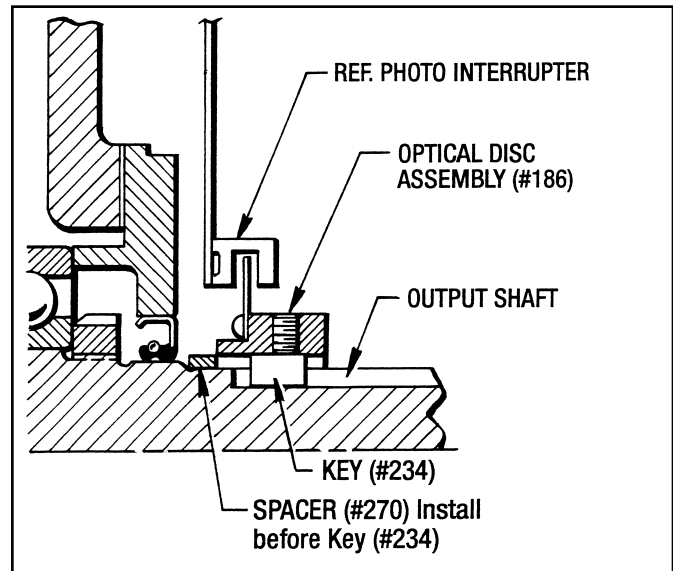

Figure 5.5 - Optical Disc and Hub Positioning (Size 2.5 *Posidyne*)
2. First slide the Spacer (#270) onto the output shaft as far as it will go. Install Key (#234), then slide the Optical Disc Assembly onto the output shaft, butting it up against the Spacer. (See Figure 5.5)